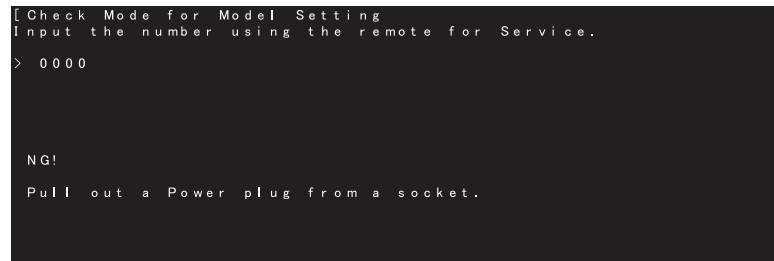

Fig. 4: Screen image 4
- > If a number corresponding to the input number does not exist, the error message will be displayed. (Fig. 4)